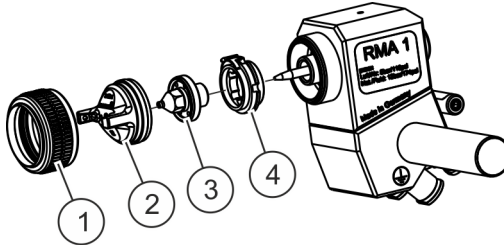

Fig. 10: Changing the material nozzle and the air nozzle
2. ➞ Unscrew the cap nut (Fig. 10/1) and air nozzle (Fig. 10/2) from the main element.
4. ➞ Unscrew the material nozzle (Fig. 10/3).
The air distributor ring (Fig. 10/4) is only required for flat jet nozzles. When fitting the automatic spray gun with round or rotary jet nozzles, the air distributor ring is not mounted but it is included in the scope of delivery.
2. ➞ Insert the air nozzle in the cap nut (Fig. 10/1) and screw it back onto the main element.